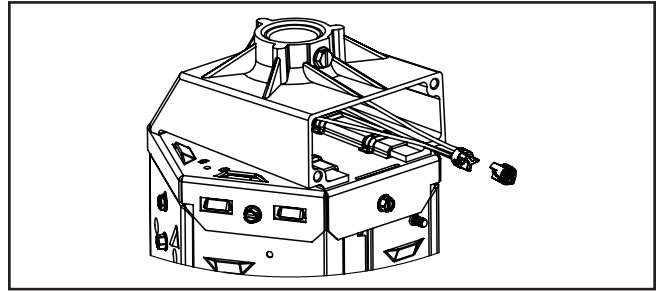

Figure 6.
6. Wire according to code. (Figure 6.)